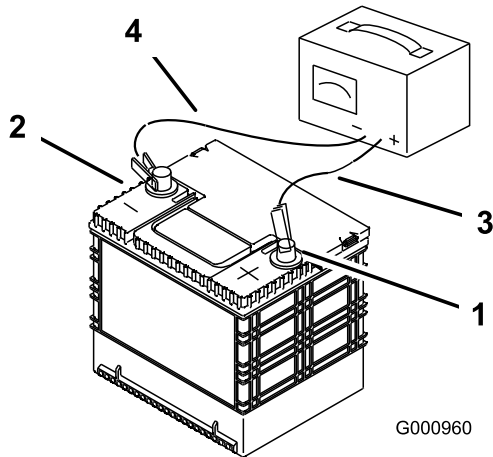

Figure 61
3. When the battery is fully charged, unplug the charger from the electrical outlet, then disconnect the charger leads from the battery posts (Figure 61).